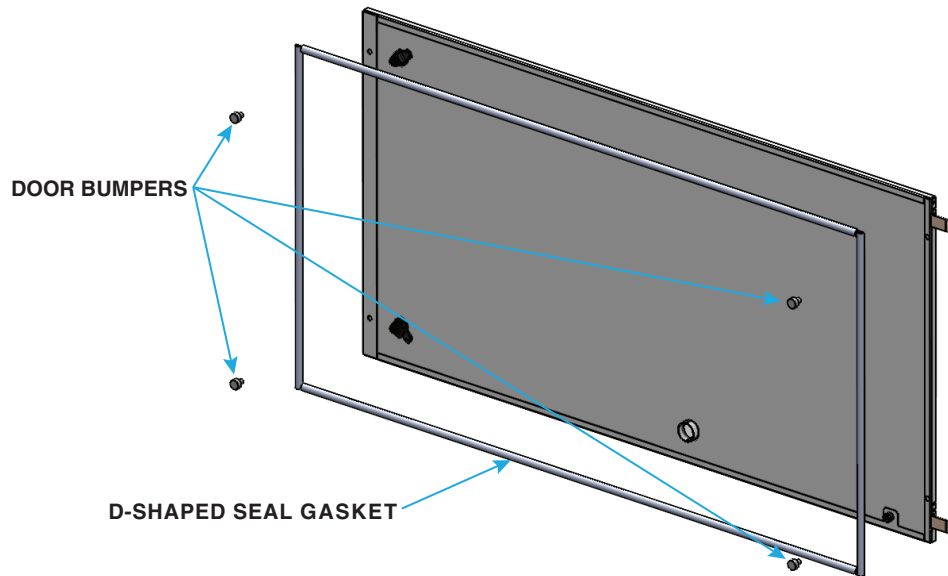

Figure 1. Access Door Panel Gasket Installation
3. Remove access door panel and install gasket (see Figure 1):